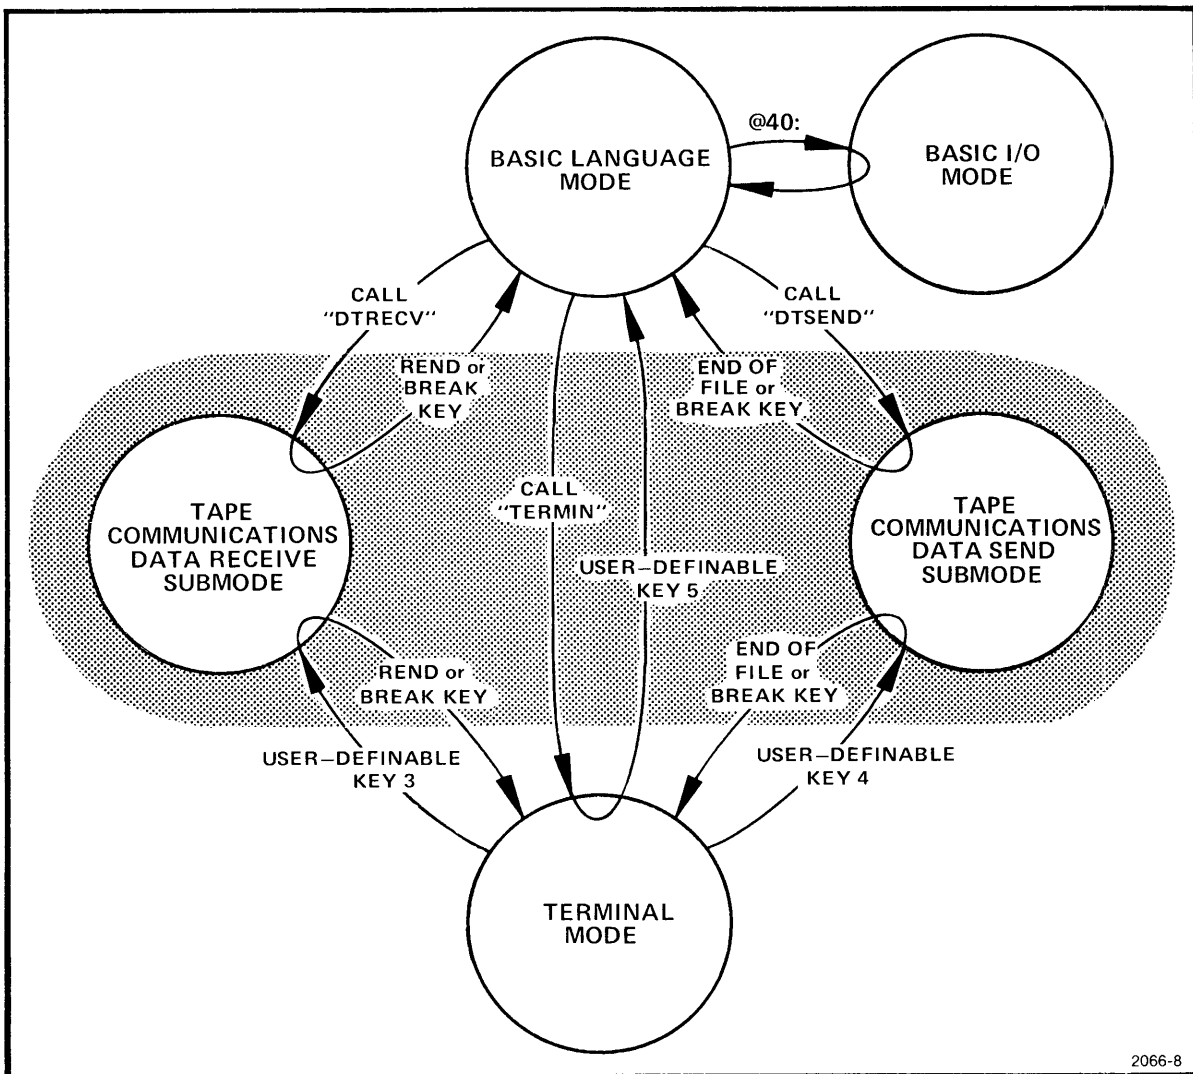

Fig. 4-4. Detailed mode change diagram.
After the file is transferred, the system automatically returns to Terminal mode, unless ESC ESC is received, in which case a return is made to the BASIC language mode. Refer now to Fig. 4-4, where Tape Communications mode is illustrated. The illustration shows the four modes of operation, and the normal process by which the mode changes are made. Note that Tape Communications mode may be entered directly from BASIC, using the statement CALL "DTRECV" or CALL "DTSEND". The arrow which shows this change loops through the circle labeled TAPE COMMUNICATIONS, and returns to BASIC upon completion of Tape Communications. If Tape Communications are called from Terminal mode, by pressing user-definable key 3 or key 4, Terminal mode is re-entered afterwards.